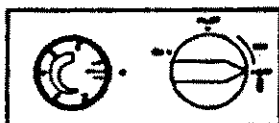

Figure 18 - Control Knob In The OFF Position
3. Push in control knob slightly and turn clockwise ↻ to the OFF position. (see Figure 18).
5. Push in and turn control knob counterclockwise ↻ to PILOT position. Press in control knob for five (5) seconds.
7. Press in control knob and turn counterclockwise ↻ past IGN to PILOT (see Figure 18). This will cause the piezo ignitor to spark and light the pilot gas. Keep control knob depressed for 10 seconds before releasing. If needed, repeat steps 5 through 7 until pilot lights
8. When pilot is lit, turn the control knob to ON position (see Figure 18).
9. To select desired heating level, turn the temperature setting knob counterclockwise ↻ between 1 and 7 see figure 18).